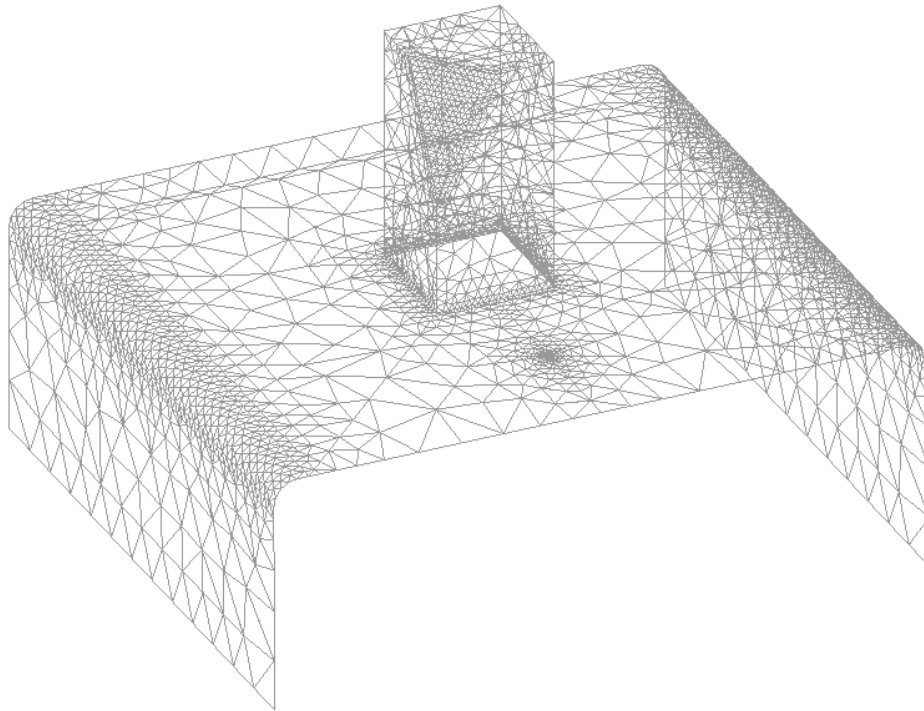

Figure 10. Mesh using sizes assignment by chordal error. Here there is a greater concentration of elements in the curved zones.
- 10 . Another window appears in which you can enter a maximum element size. Leave the default value unaltered and click **OK**. This results in a high concentration of elements in curved areas. Now our approximation is significantly improved (see Figure 10).